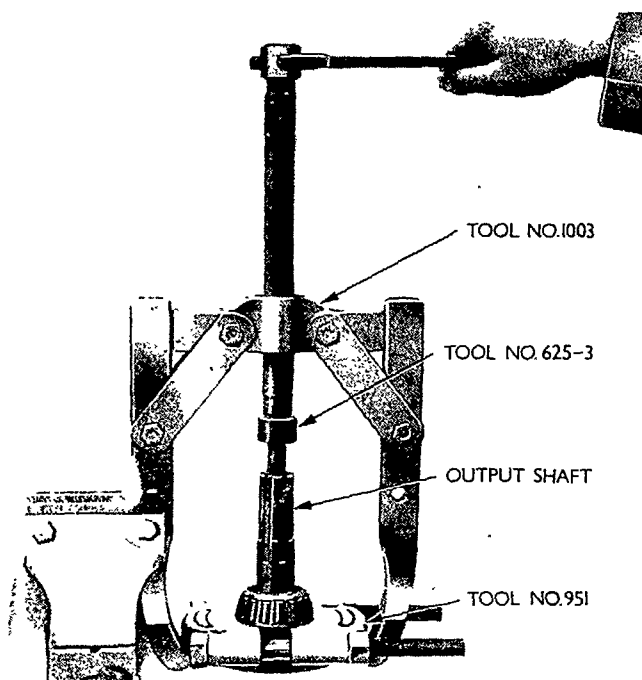

Figure 2
10. Remove the output shaft outer bearing using Tools Nos. 1003, 951 and 625-3, Figure 2. Remove the oil seal from the shaft.